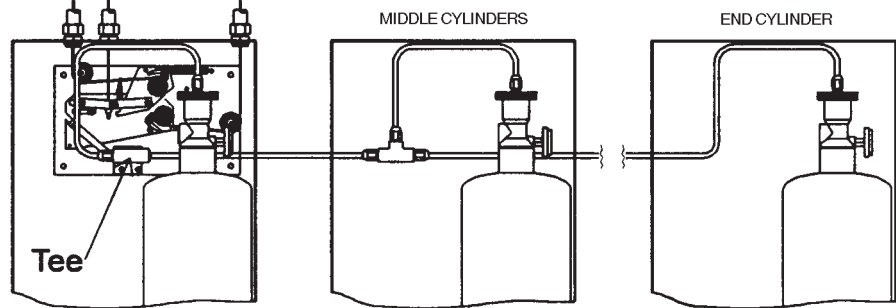

Figure 4-29. Multiple Cylinder Installation with Model EN-MCU3 Enclosure and Model EN-S Enclosure.
- ▶ The Model EN-S can be used in conjunction with the Model EN-MCU3 Enclosure or Model MCH3/ECH3 Control Head for multiple cylinder installations. A single Model EN-MCU3 can be used to pneumatically actuate a maximum of three (3) agent cylinders. One (1) agent cylinder can be installed in the Model EN-MCU3 Enclosure; the additional agent cylinder(s) can either be mounted in a Model EN-S Enclosure or with a Model MB-15 Mounting Bracket. When an enclosure is used, the cylinders must be placed in the enclosure(s) with the discharge port to the left. **No additional mounting bracket is required when a cylinder is installed in the Model EN-MCU3 or EN-S Enclosure.**
- ▶ In order to actuate the agent cylinders from the Model EN-MCU3, pneumatic tubing must be used to connect the EN-MCU3 actuator to the valve cap assembly of each agent cylinder valve. Pneumatic tubing must be run from the actuator in the Model EN-MCU3 to the Model EN-S(s) through the side knockout. A 1/4", 45° flare x 1/4", 45° flare x 1/4" NPT tee is included with the Model EN-S and must be installed in the Model EN-MCU3 actuator. See **Figure 4-29.**